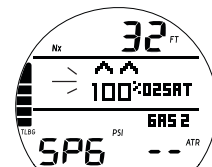

Fig. 64 - O2 ALARM (in Deco, until on surface)
When O2 reaches 100%, the Audible will sound again during which the O2 value 100 and (2) Up Arrows will flash until on the surface (Fig. 64). The full TLBG remains on solid as a reminder of Deco.